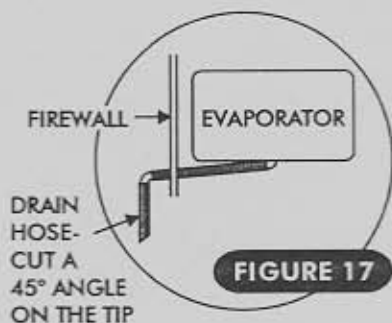

FIGURE 17
- DRILL A 9/16" HOLE 1" BELOW EVAPORATOR IN LINE WITH THE DRAIN AND ATTACH THE DRAIN HOSE TO THE EVAPORATOR AND ROUTE THRU THE 9/16" HOLE. INSTALL THE 90° FITTING AND 4" DRAIN HOSE. CUT AND ORIENT HOSE AS SHOWN IN FIGURE 17, PG. 7.